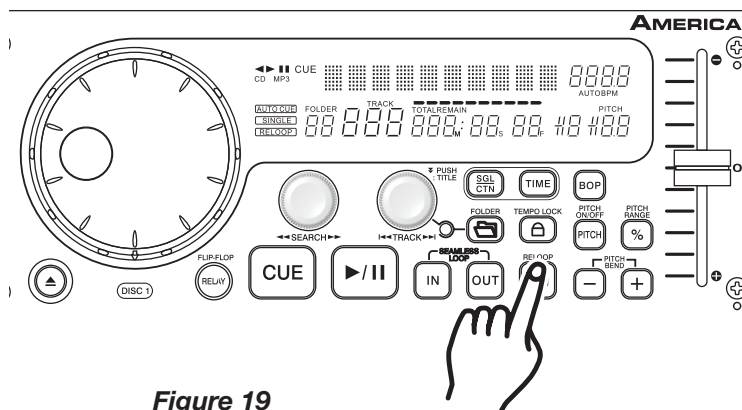

Figure 19
- 3) Press the **OUT BUTTON (16)** to set the ending point for your SEAMLESS LOOP (Figure 19). The **IN BUTTON (17)** and **OUT BUTTON (16)** L.E.D.s will immediately begin to flash rapidly, indicating the SEAMLESS LOOP mode has been activated.
**REPLAY LOOP** - The **RELOOP** (15) function allows you to return to your stored loop at any time. The **IN BUTTON** (17) and **OUT BUTTON** (16) L.E.D.s will indicate a loop is stored in memory, and may be played at any time. To replay the loop, press the **RELOOP BUTTON** (15). The **IN BUTTON** (17) and **OUT BUTTON** (16) L.E.D.s will again begin to flash indicating SEAMLESS LOOP mode has been activated (Figure 19) and your stored loop will immediately begin to play.
**Stutter Effect:** You can use your loop to create a stutter effect. When a loop is playing press the **IN BUTTON** (17) repeatedly to create this effect.
*Please Note:* Only the end point of the loop may be edited. You may make your loop shorter or longer. Before you can edit your seamless loop you obviously must first have created a seamless loop to edit. If you haven't created a SEAMLESS LOOP, follow the instructions in step 9 to create a loop. If a SEAMLESS LOOP has already been created, press the **RELOOP BUTTON** (15) to activate your SEAMLESS LOOP (Figure 19) if it is not already activated. To edit your seamless loop's ending point: